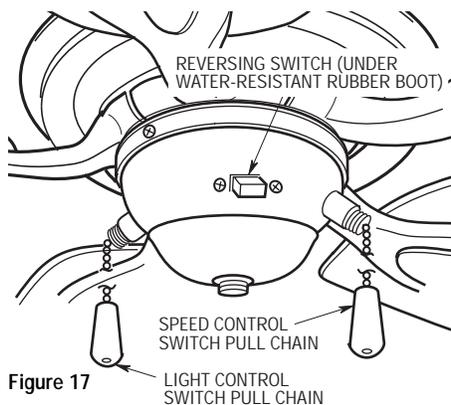

Figure 17
- 2. Check the operation of the fan by gently pulling on the 4-position speed control switch pull chain (large pendant) (Figure 17). The operating sequence is as follows:
- 3. If airflow is desired in the opposite direction, turn your fan off and wait for the blades to stop turning. Then slide the reversing switch (located under the rubber boot) to the opposite position (Figure 17), and turn the fan on again. The fan blades will turn in the opposite direction and reverse the airflow.
- 4. Turn the housing lights on/off by gently pulling on the light control switch pull chain (small pendant) (Figure 17).